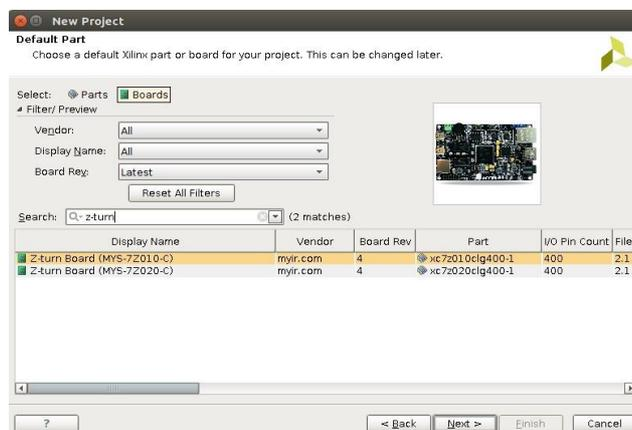

Figure 18: Hardware Selection
3. Choose the hardware platform where we will run the applications. The development board is entitled MYS-7Z010-C-S Z-turn (see Figure 18). Press **Next** and then **Finish**.